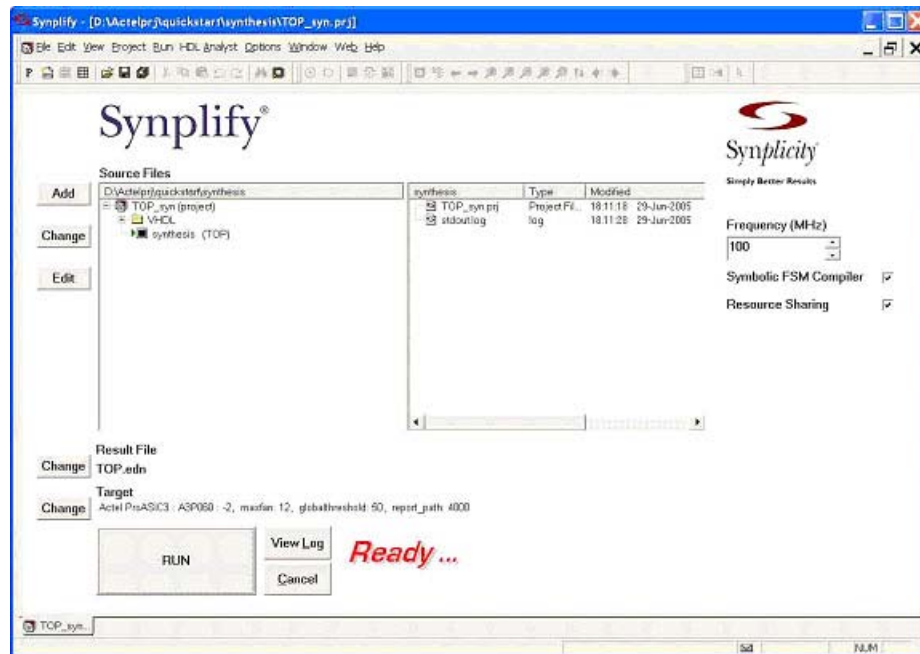

Figure 7-25 • Synplify Main Window
1. In the Libero IDE, double-click the Synplify **Synthesis** icon in the Libero IDE process window, or right-click the **Top.vhd** file in the Design Hierarchy and select **Synthesize**. This launches the Synplify synthesis tool with the appropriate design files, as shown in Figure 7-25.